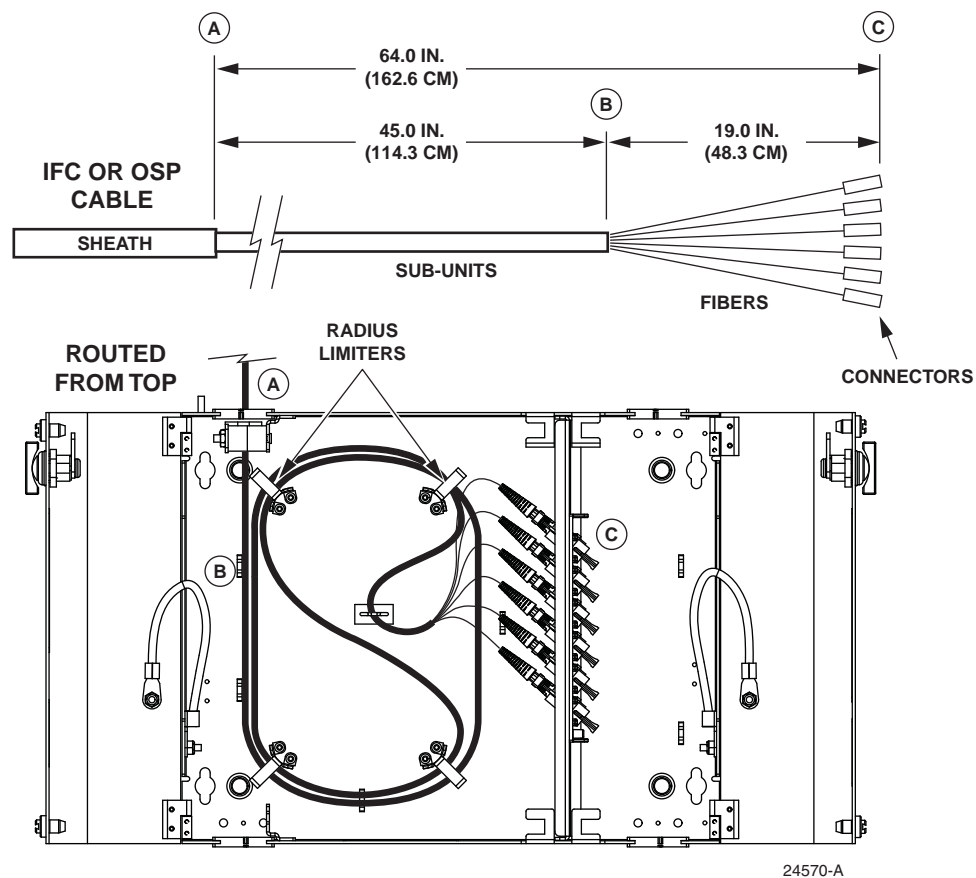
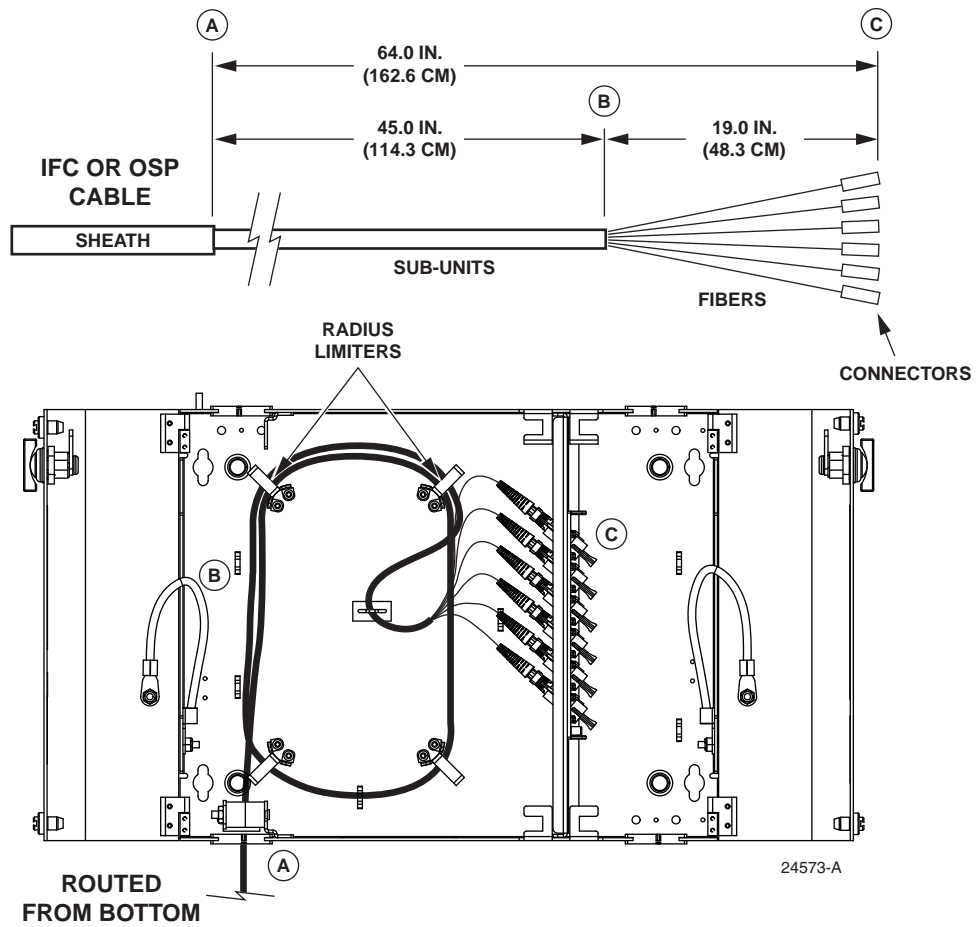
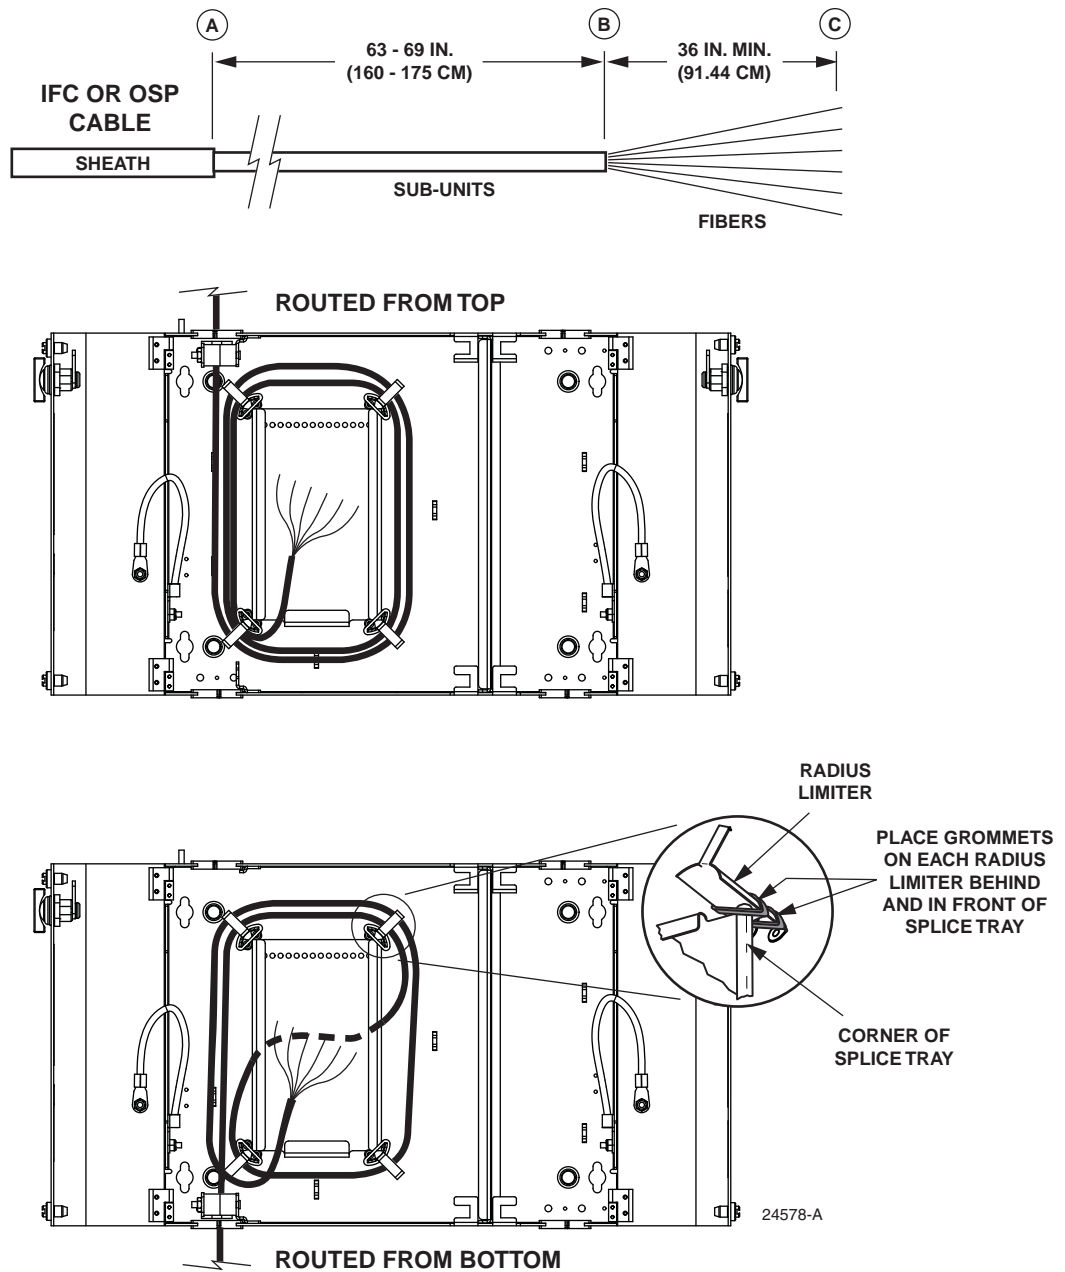

Figure 16. Field Termination Breakout and Routing, 12-Fiber Wall-Mount Box (Top Entry)
Figure 17. Field Termination Breakout and Routing, 12-Fiber Wall-Mount Box (Bottom Entry)
Figure 18. Splicing Breakout and Routing, 12-Fiber Wall-Mount Box
This unit can be used for either field termination or splicing. Figure 16 and Figure 17 show the correct breakout for field termination. Figure 18 shows the correct breakout for splicing.
2. Strip the outer sheath of the cable to expose the inner fiber bundles. Figure 16 and Figure 17 show the correct breakout for termination. Figure 18 shows the correct breakout for splicing. The cable sheath should extend about 0.75 inch (1.9 cm) beyond the cable clamp or compression fitting.
6. Route the fibers within the wall-mount box as shown in Figure 16, Figure 17, and Figure 18. Tie the fibers down in the location shown using cord lacing.